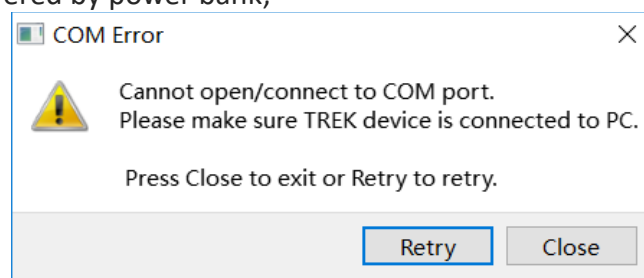

Figure 4.2.2 The host computer cannot communicate
- 4) Open the host computer software DecaRangeRTLS .exe, if it appears as shown in Figure 4.2.2, there may be the following reasons: